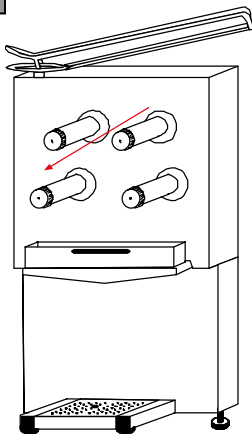

FIG. 0
- ☒ Once located machine, uncoil the two back screw such a form that the front axles have a slight inclination down. (FIG. 0)